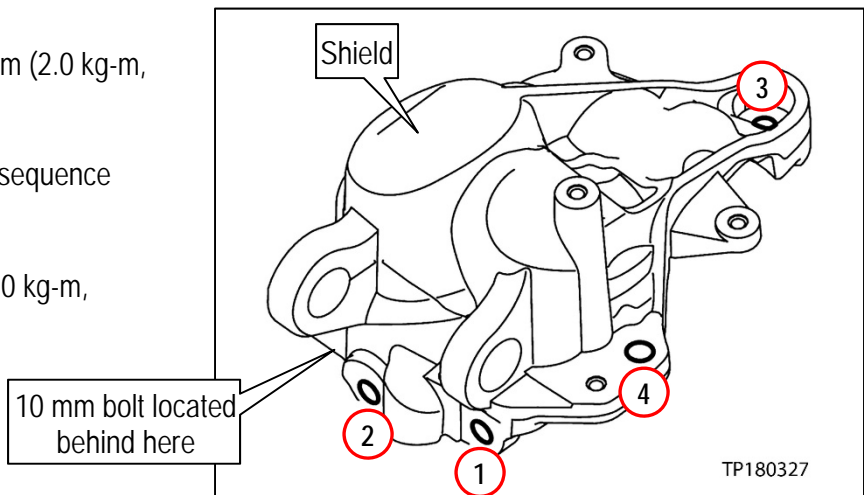

Figure 23
- Torque the T45 bolts in the sequence shown in Figure 23.